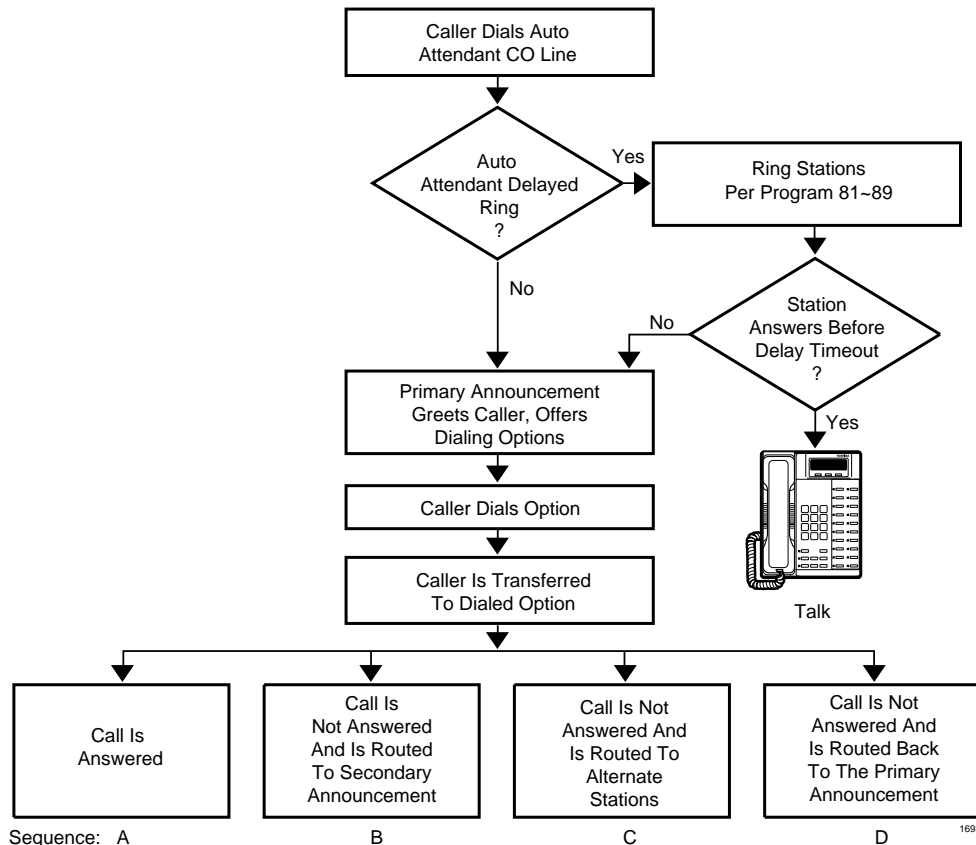

Figure 10-41 Built-in Auto Attendant Basic Call Sequences
The built-in AA feature offers flexibility in answering calls. Calls follow the basic sequences described below and illustrated in Figure 10-41, “Built-in Auto Attendant Basic Call Sequences”.
See Figures 10-41 and 10-42 for a comprehensive overview of built-in Auto Attendant (AA).